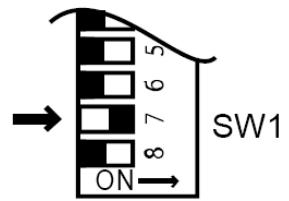

Fig. 3
10. Set the Rinnai Infinity to '**Forced Low**' combustion by setting No.7 dip switch of SW1 to 'ON'. (Fig. 3)